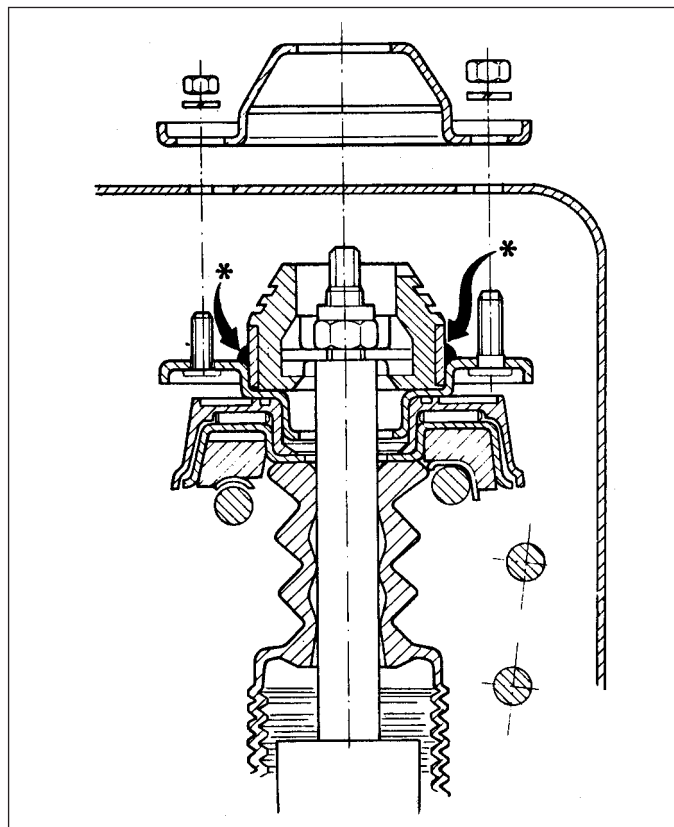

Fig. 11.4 Waterproof bead applied to strut with top cover removed (Sec 3)
**Note:** On cars built before 1985, when assembling the strut top mounting, apply a bead of sealant as shown in Figs. 11.4 and 11.5 to prevent the entry of water into the strut bearing. Later models are fitted with a rubber seal.